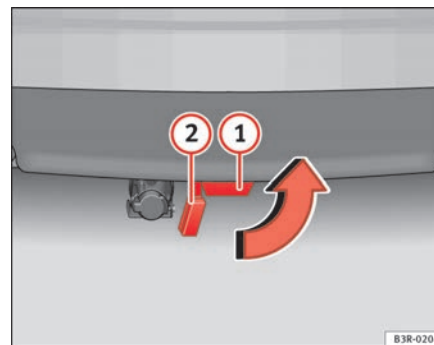

Fig. 157 Rear bumper: fitting the cover piece
- Pull the ball joint down out of the mounting fixture **1** ⇒ page 193, fig. 157. The cover piece will cover the mounting fixture automatically **2**.